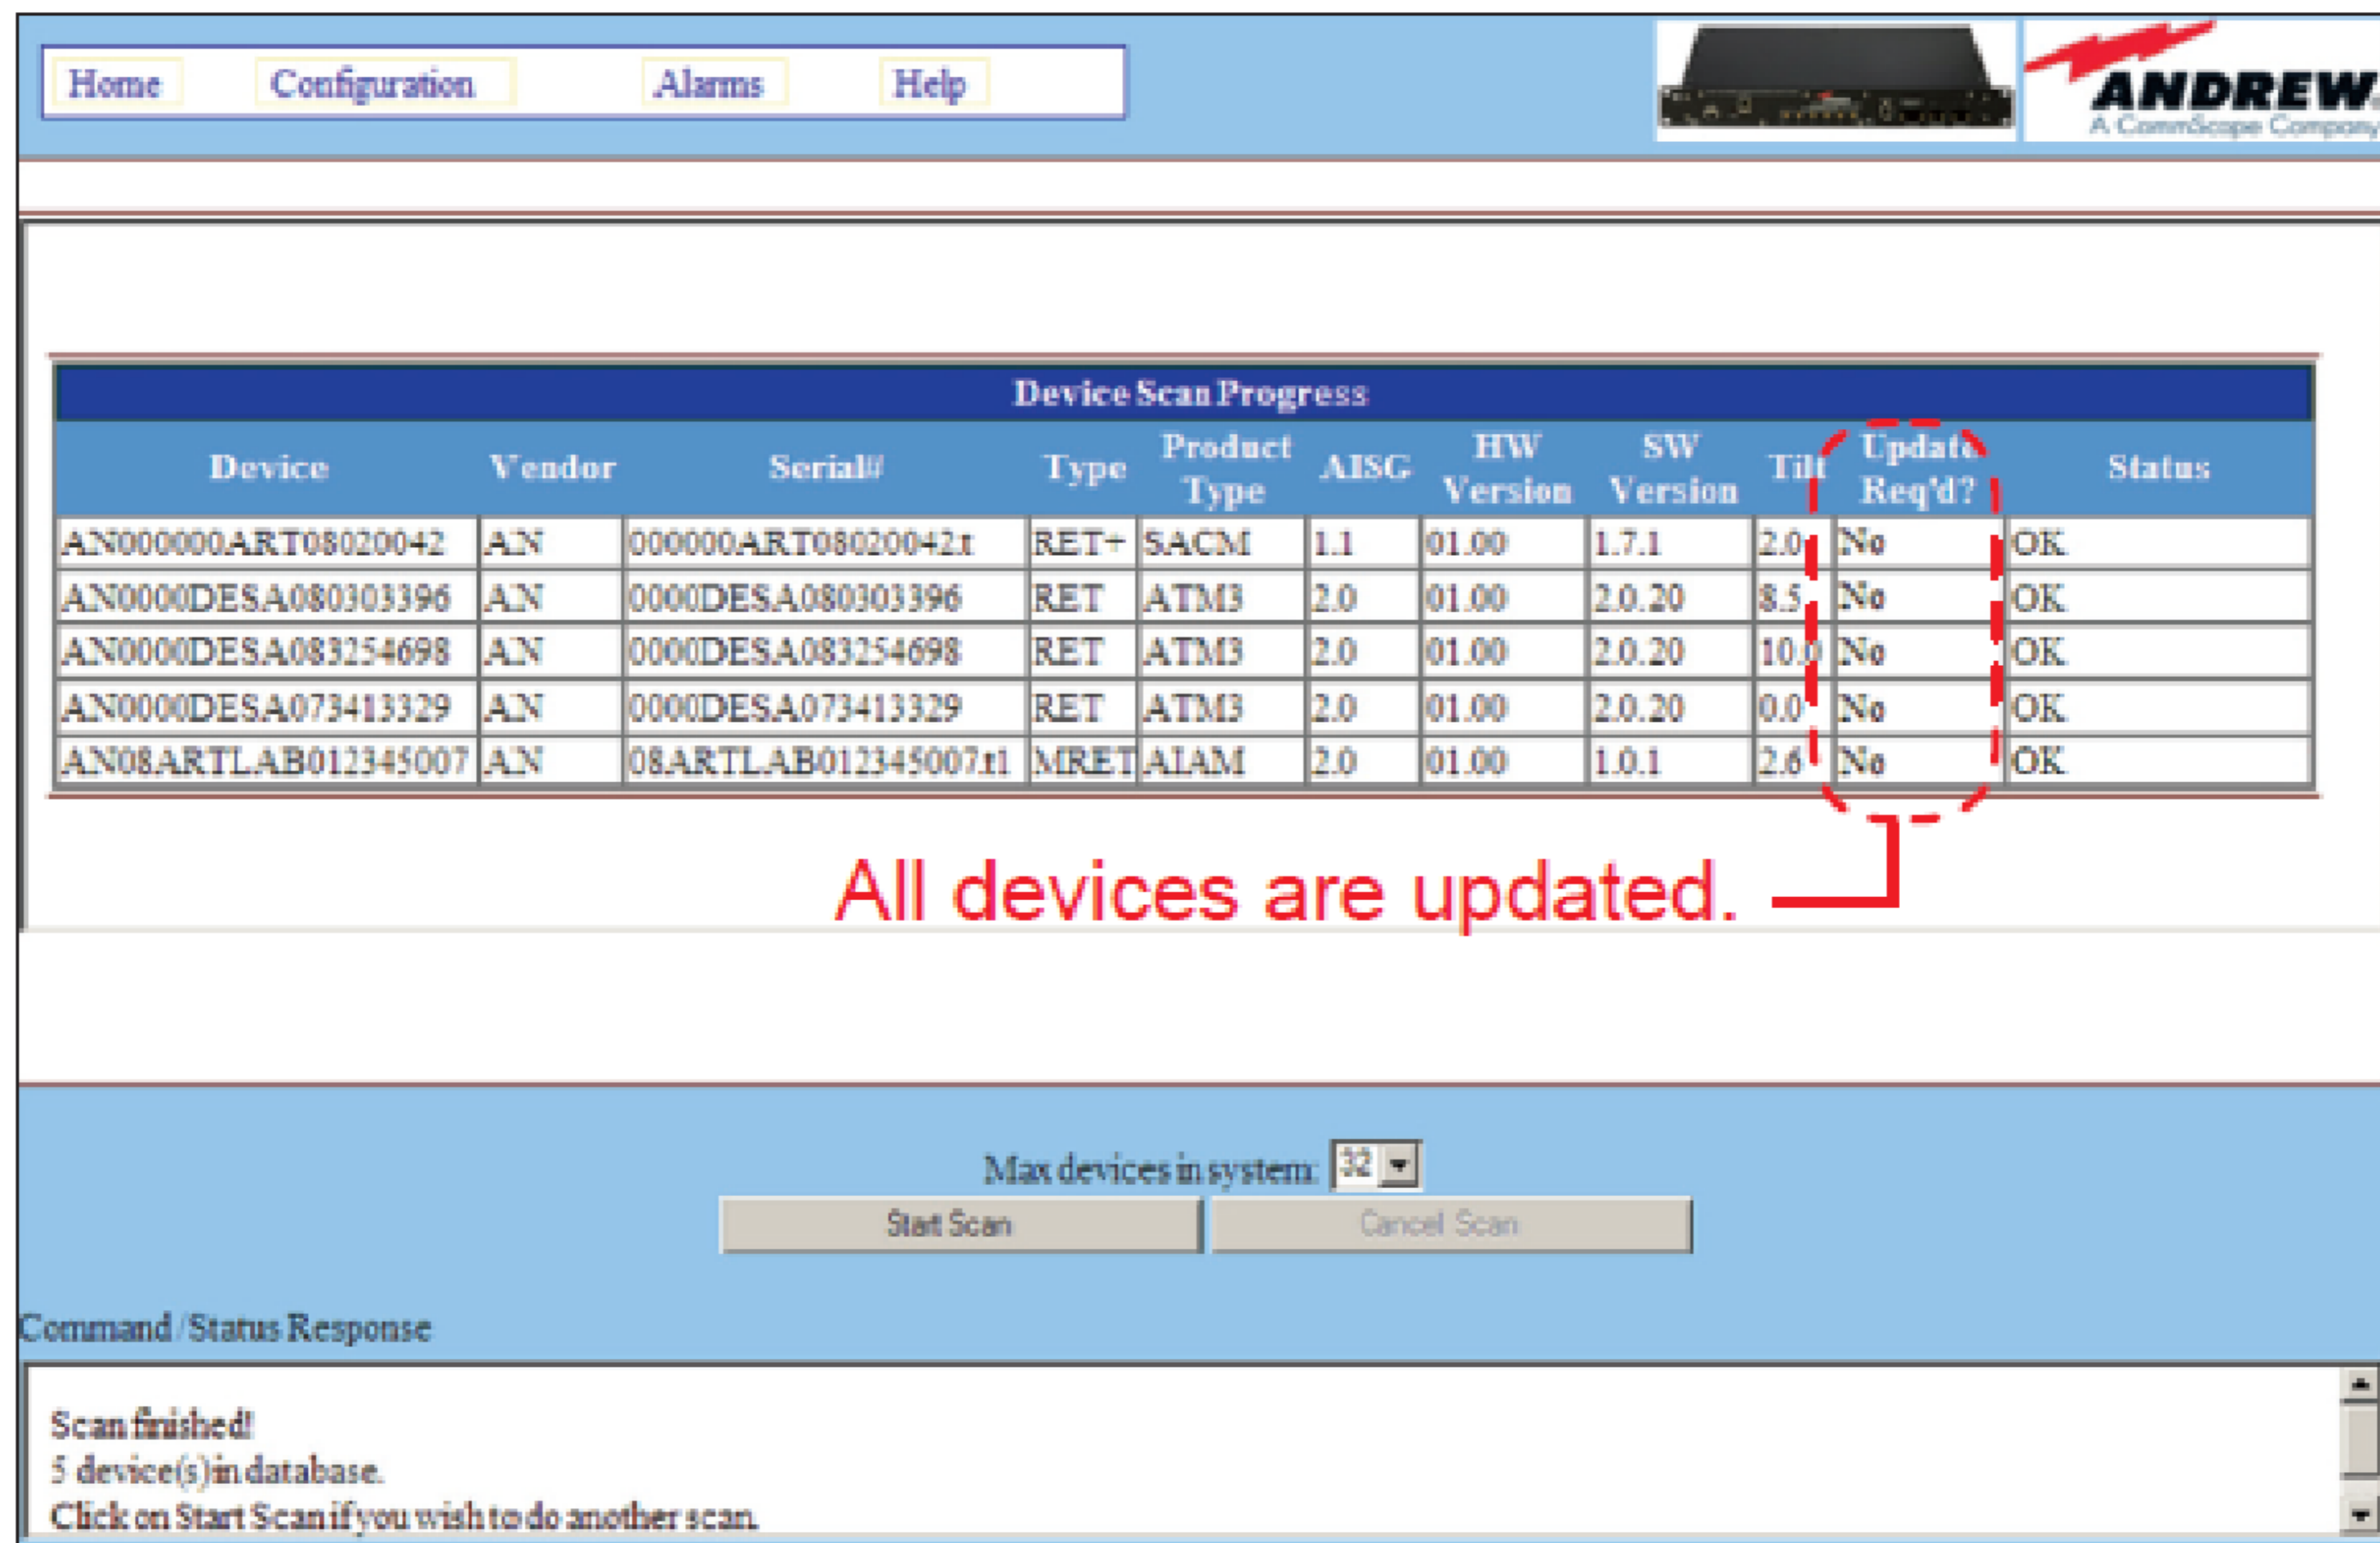

Figure 7. Devices Indicate Updated Firmware Versions.
5. The **Statistics** or **Device Scan** screen displays a list of the updated devices(Figure 7).